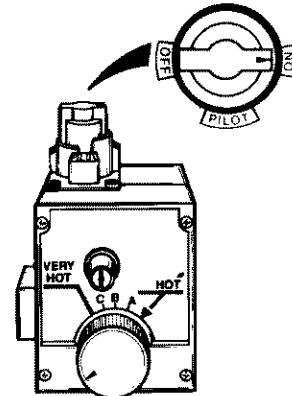

Figure 7
- WARNING: Do not use gas control knob to regulate gas flow.** (Figure 7, page 19)